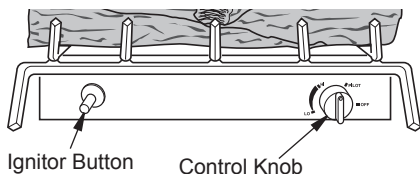

Figure 29 - Control Knob and Ignitor Button Location
- Slightly press and turn control knob counterclockwise  to the PILOT position. Press in control knob for five (5) seconds (see Figure 29).